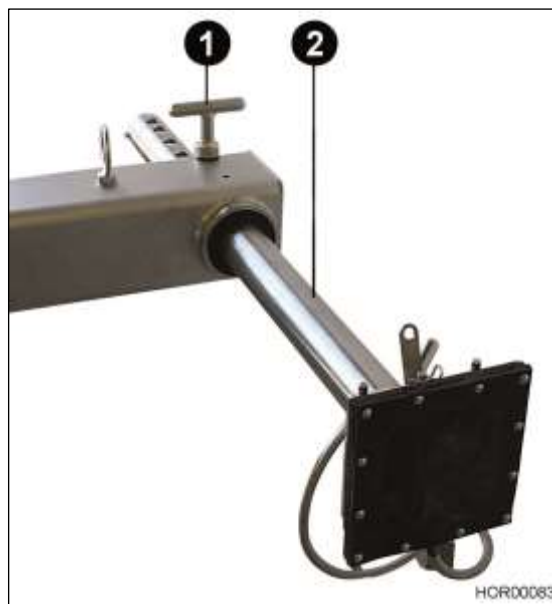

Bild 16 Positioning the heating plate holder
- Remove the heating plate holder's (Bild 16/2) safety bolts (Bild 16/1) and push the heating plate holder towards the back (Bild 16).